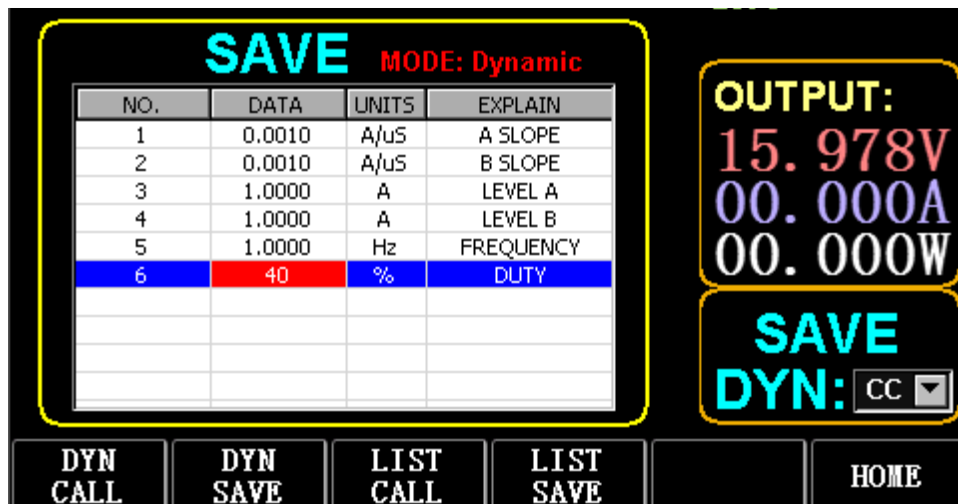

Fig. 3.1 DYN CC
Select (FS) Dynamic to enter the interface as shown in Fig. 3.1.